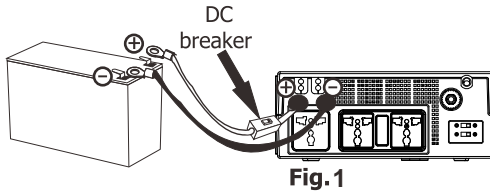

Fig.1
1) Single Battery Connection for 1200 VA Single Battery 12 Volt (Refer to Fig 1):